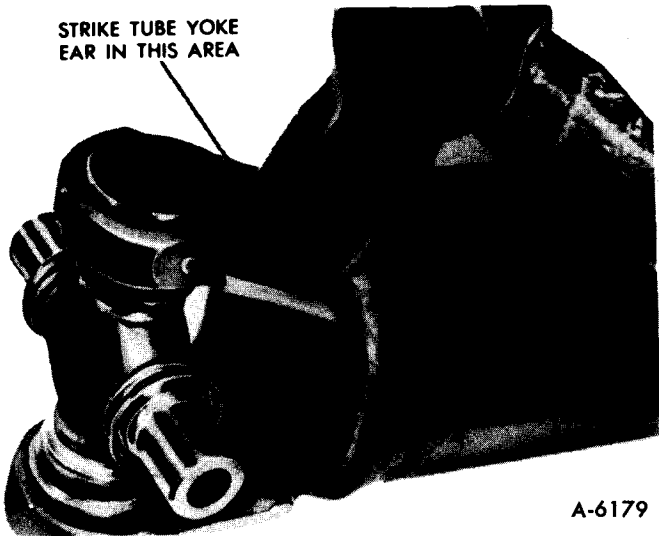

Figure 6—Seating the Snap Rings
**NOTE:** If difficulty is encountered in seating snap rings, strike the yoke firmly with a hammer to aid in seating the snap rings. This springs the yoke ears slightly (figure 6).